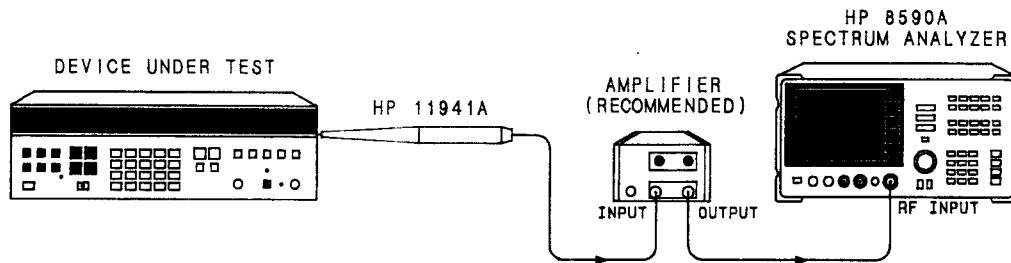

Figure 3. Localized Emissions Test Setup
**3-13. Localized Emissions Test Setup:** figure 3 illustrates a typical configuration used for localizing EMI emissions. See section 3-16 for proper probe placement.